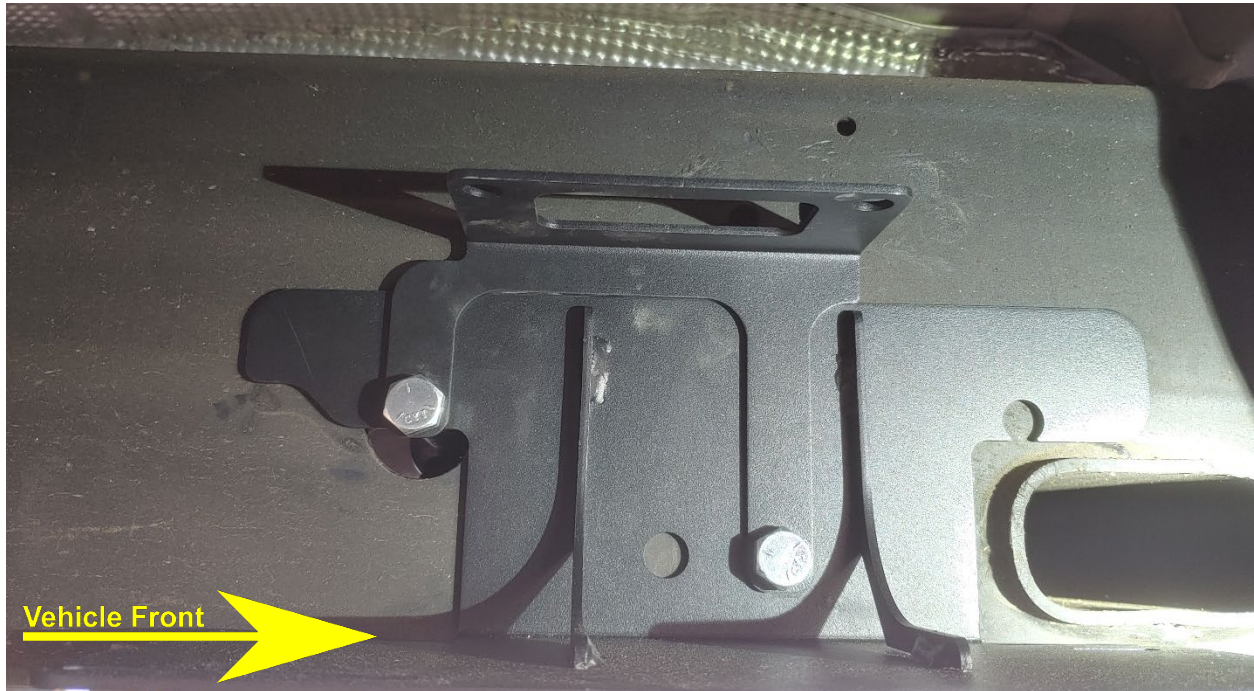

Figure 33- Compressor Bracket Installation, Outside Frame Rail
6. Fully tighten hardware H1 & (if required), attach the module to the relocation bracket using hardware H5, H6, H7 & H15 as shown in the above Figure 33.